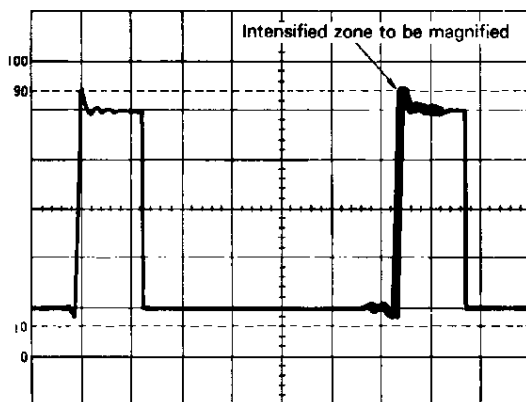
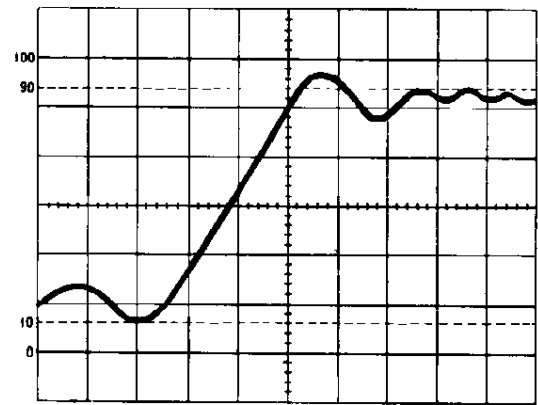

Fig. 11
Fig. 12
2. Set the B sweep in the **STARTS AFTER DELAY** mode. Set the **HORIZ DISPLAY** to the **INT** mode and the B sweep will appear as an intensified portion of the A sweep. The length of the intensified portion is adjusted by the **B SWEEP TIME/DIV** control. (Fig. 11).
3. Shift the intensified portion of waveform (section to be magnified) along the sweep A sweep by use of the **DELAY TIME MULT** ③⑤.
4. Set the **HORIZ DISPLAY** to B to display the **INT** intensified portion as a magnified B sweep. (Fig. 12).